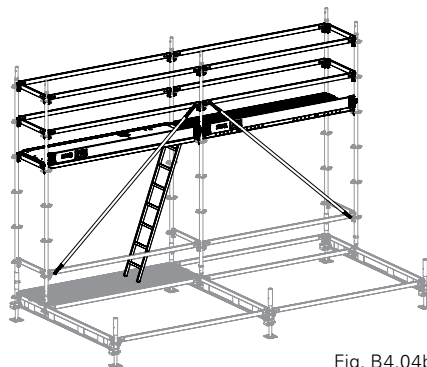

Fig. B4.04b
- Ladder, access deck and Deck UDG (Fig. B4.04b)